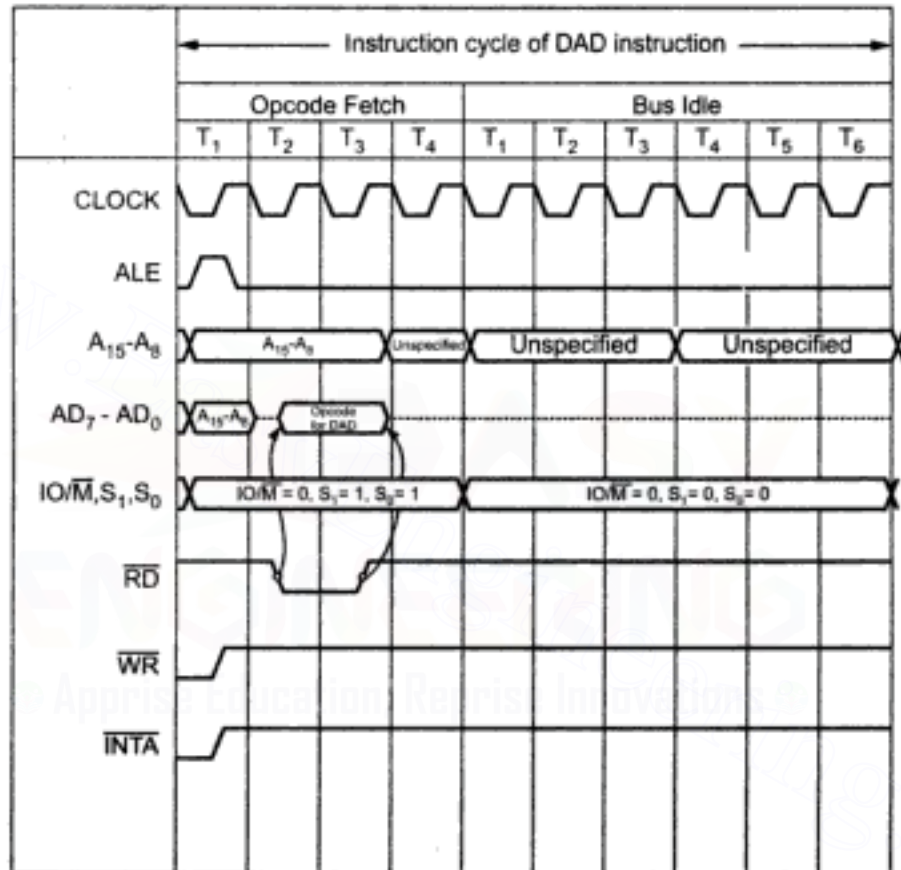

Fig. 1.35 Timing diagram for DAD instruction
1. For execution of DAD instruction (this instruction adds the contents of a specified register pair to the contents of HL register pair) ten T states are required. This means that after execution of opcode fetch machine cycle, DAD instruction requires 6 extra T-states to add 16 bit contents of a specified register pair to the contents of HL register pair. These extra T-states which are divided into two machine cycles do not involve any memory or I/O operation. These machine cycles are called BUS IDLE machine cycles. Fig. 1.35 shows Bus Idle Machine Cycle for DAD instruction.